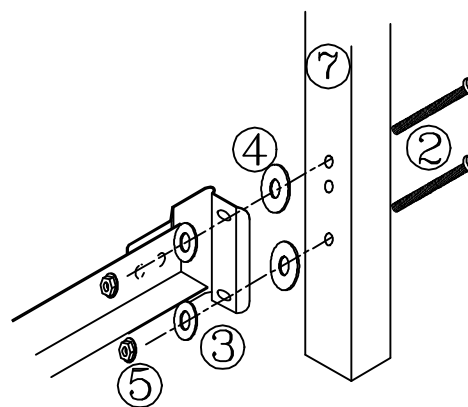

FIGURE 2
Align holes in post (6) with holes in frame bracket (8). Place rubber washer (4) between post (6) and frame bracket (8). Insert screw (2) thru washer (3) and frame bracket (8) into post (6). See Fig. 2 Repeat on other posts. Tighten all connections. Follow same instructions for footboard connection. See Fig. 3
(See Figure 2) Slide rubber washer (4) over screws.